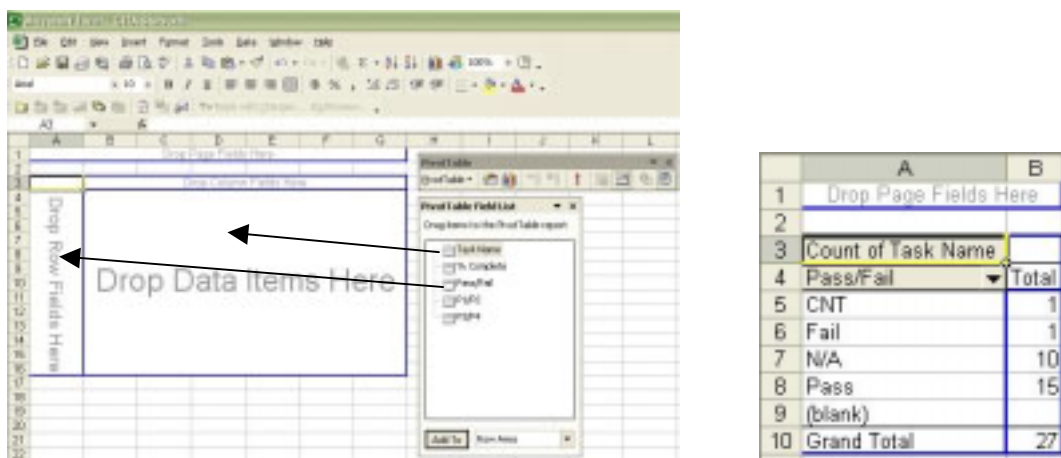

Figure 6 – PivotTable Default and Drag Field Result
- A default setup for the PivotTable will be placed in a new worksheet as displayed on the left side of Figure 6. Select and drag the **Pass/Fail** field from the **PivotTable Field List** dialog to the **Row Fields** area. Select and drag the **Task Name** field from the **PivotTable Field List** dialog to the **Data Items** area. The result will be as displayed on the right side of Figure 6.